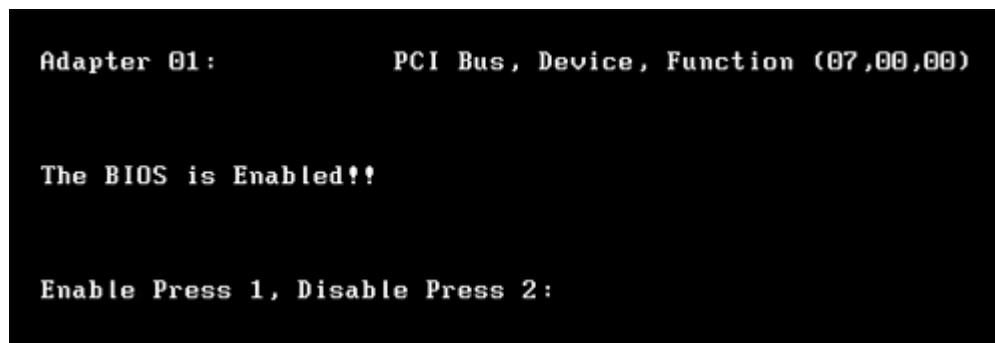

Figure 9: BIOS status screen
1. On the Adapter Configuration menu, select **<1>** Enable or Disable BIOS. The current status of the boot BIOS is displayed (Figure 9).